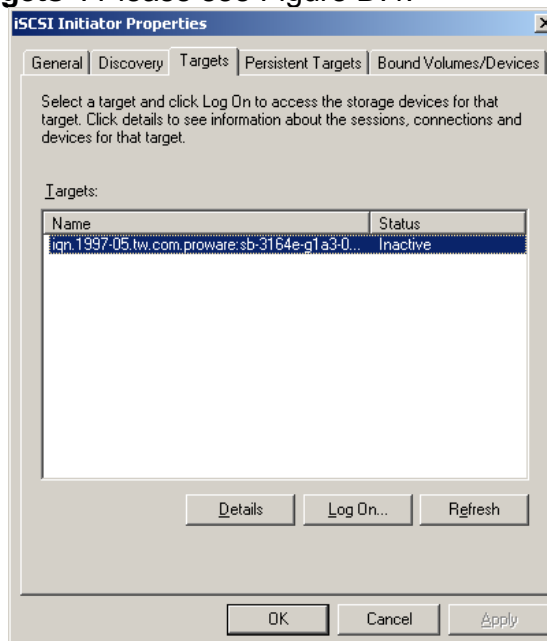

Figure D.4
5. Click **“Targets”**. Please see Figure D.4.